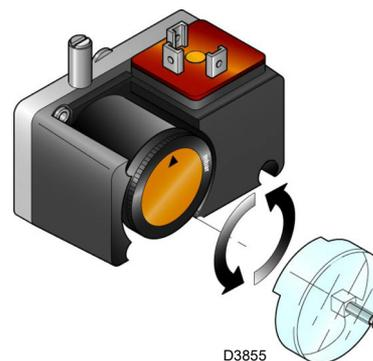

Fig. 33
- Adjust the pressure switch for the valve leak detection control device (PVP Kit)(Fig. 33 at page 32), if present, according to the instructions supplied with the Kit itself.
Adjust the pressure switch for the valve leak detection control device (PVP Kit)(Fig. 33), if present, according to the instructions supplied with the Kit itself.